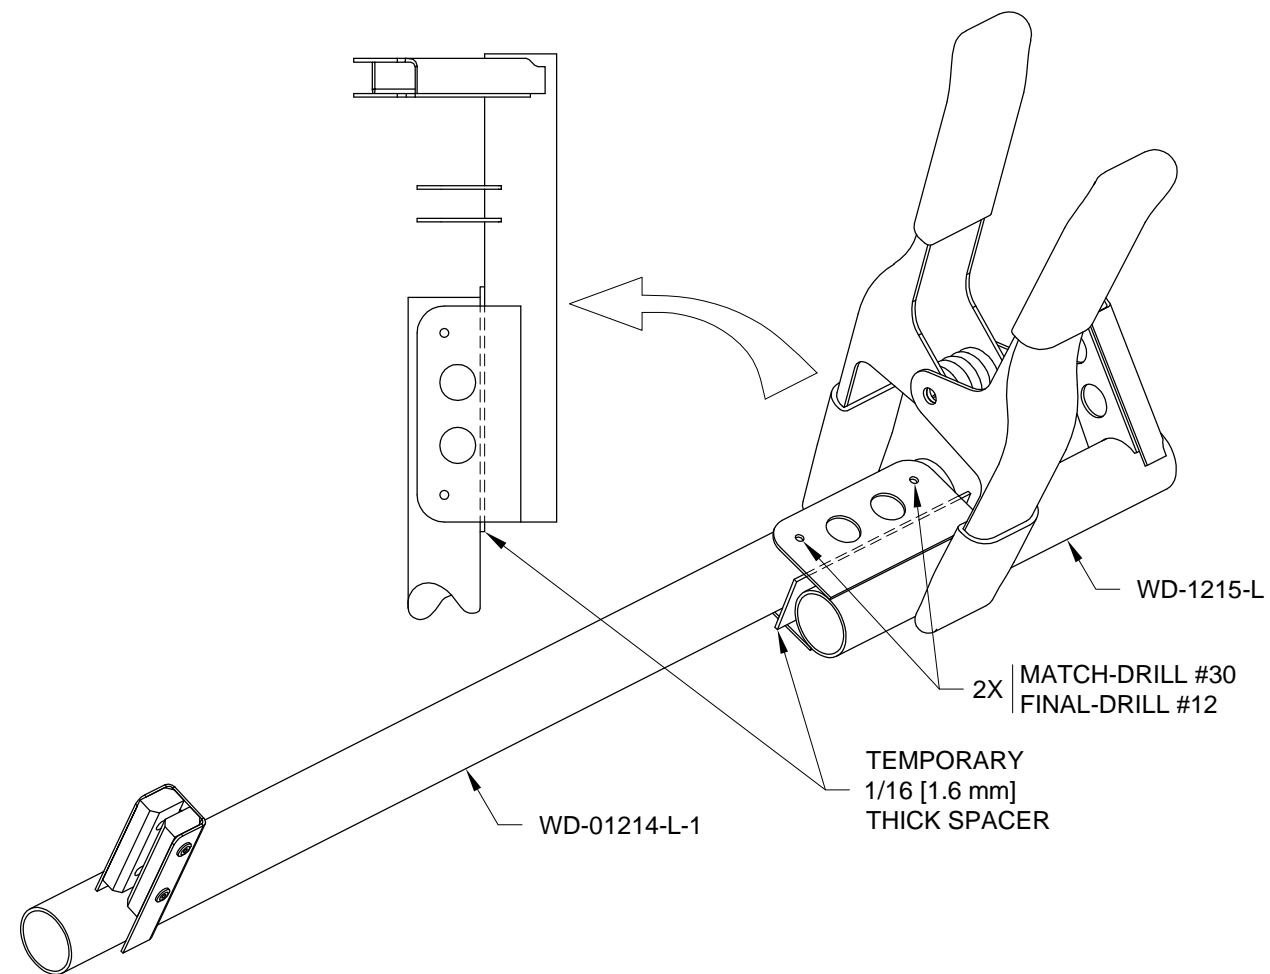

FIGURE 1: DRILLING THE FLAPERON TORQUE TUBES
Step 10: Reinstall the WD-1215-L & -R as shown on Page 32iS/U-10, Figure 1.